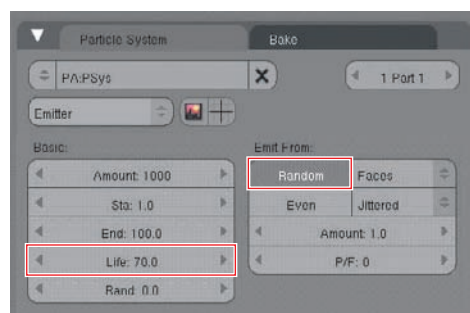

Figure 2.24 Setting Particle System values
2. Click Random as shown in Figure 2.24, and set the Life value to 70. The Random option causes particles to be released from different points on the mesh in random order. If Random is not selected, the particles will be emitted from the mesh's structure in a strict order and will not appear organic at all.